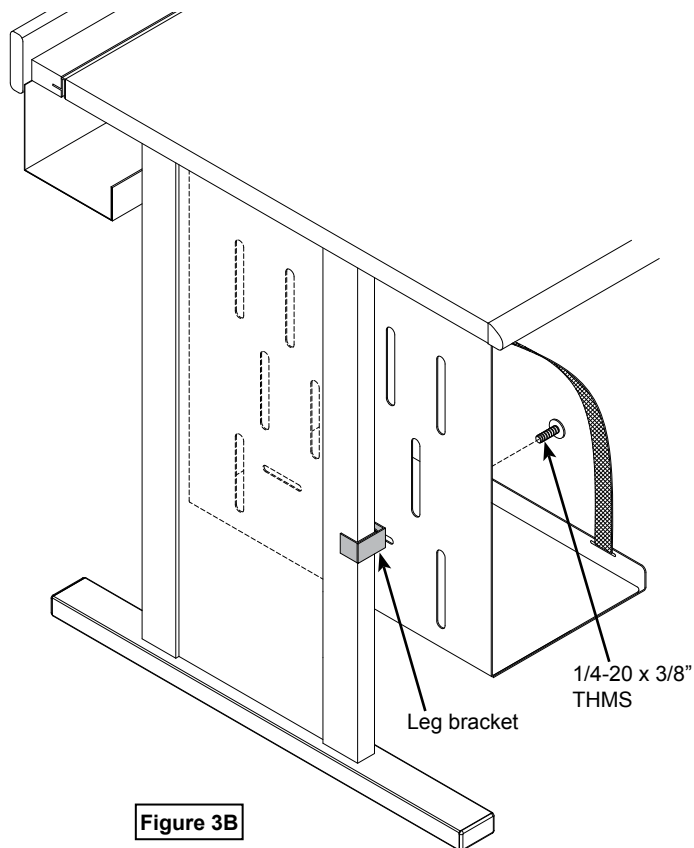

Figure 3B
2. Line up the leg bracket with the front slot of the CPU sling as shown and attach to the sling with a 1/4-20 x 3/8" THM screw. **Figure 3B.** The fit should be snug on the leg.